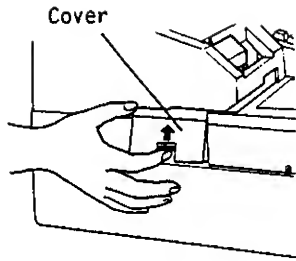

Fig. 1
1. Remove the Receipt Cover by pulling it upward (Fig.1 on the previous page).
2. Remove the cover located on the lefthand side of the cabinet, by lifting it up, as shown in Fig. 1.